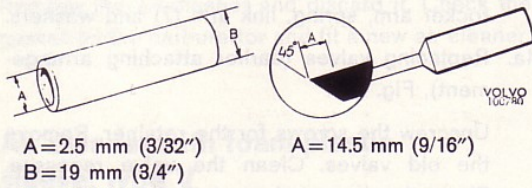
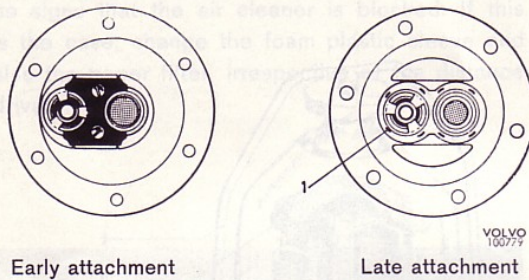

Fig. 100. Tools for fitting valves in fuel pump
Fig. 101. Fitting valves in fuel pump
- 4a. Replacing valves (earlier attaching arrangement), Fig. 100.
4b. Replacing valves (later attaching arrangement), Fig. 101.
Remove the old valves with a screwdriver or other suitable tool. Clean the valve recesses. Place the new seals and valves in position. Press down the new valves into their correct position with the help of a sleeve. A piece of tubing as shown in Fig. 100 can be used. Then peen over the material round each valve in four places with a punch, see Fig. 101. The type of punch is shown in Fig. 100.
2. Fit the new valves and (early production) retainer. On late production, fit the new valves and peen over with a punch as shown in Figs. 100 and 101.